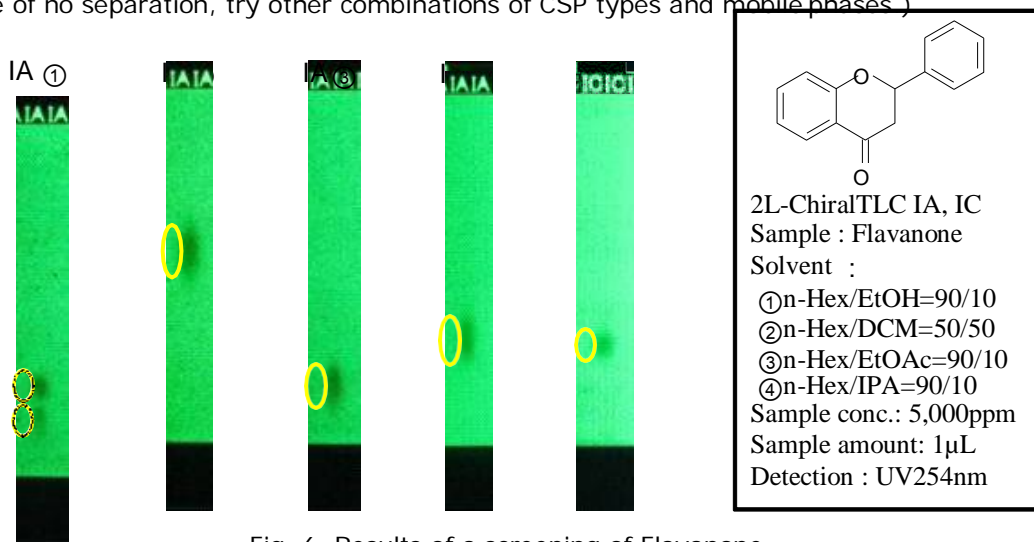

Fig. 6. Results of a screening of Flavanone.
1. Sample solutions are spotted on 2L-ChiralTLC IA, IC and developed with several solvents. (Fig. 6)